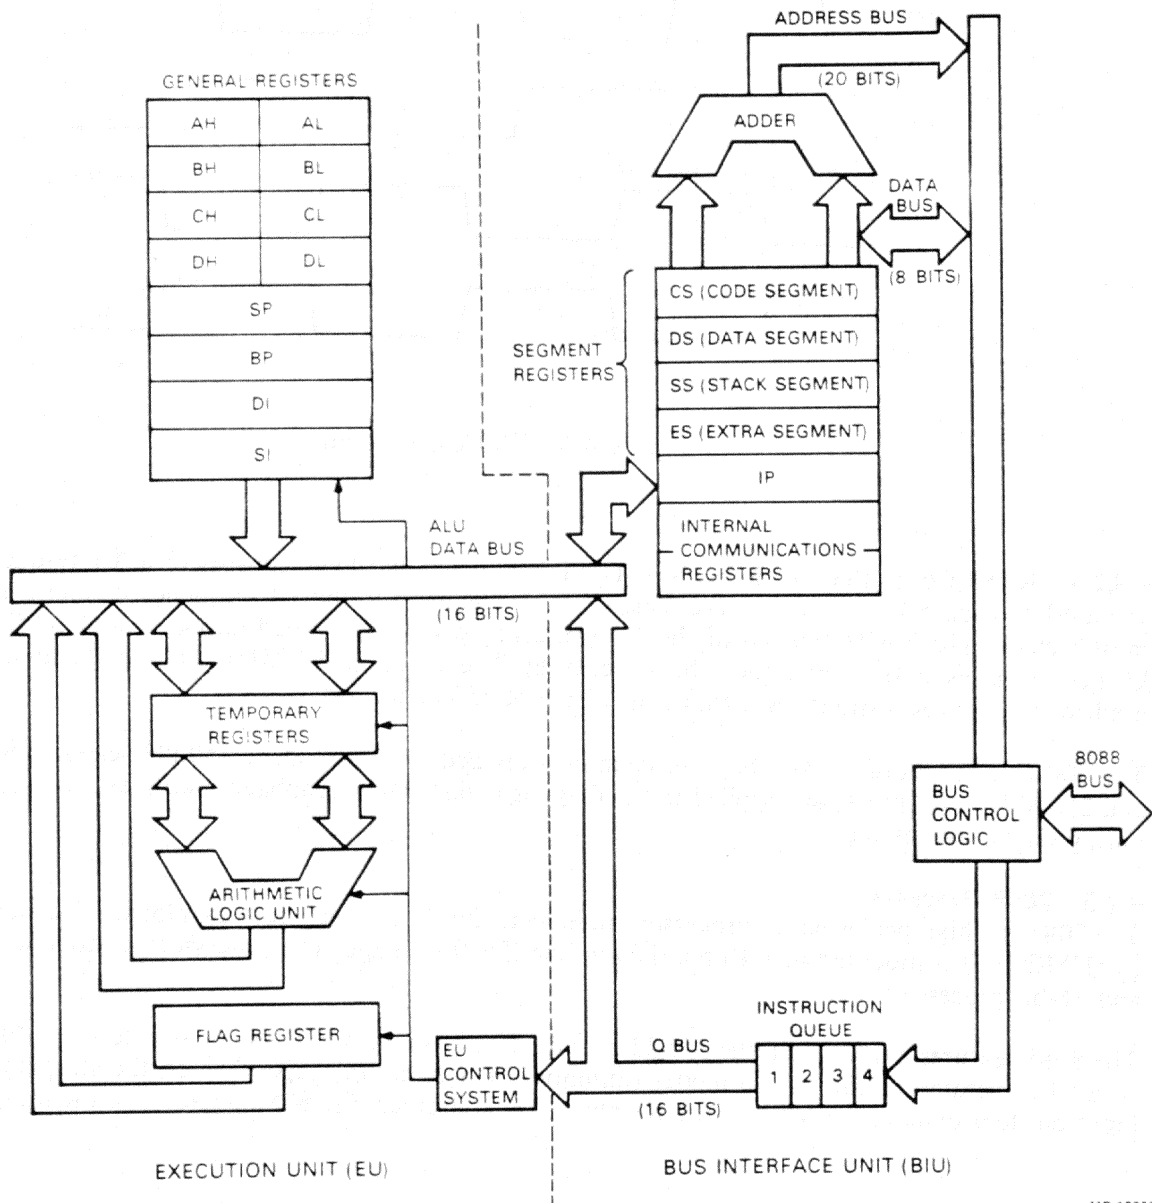

Figure 4-7 8088 Processor Block Diagram
The 8088 processor has two separate processing units: the execution unit (EU) and the bus interface unit (BIU). These two processing units are shown in Figure 4-7.